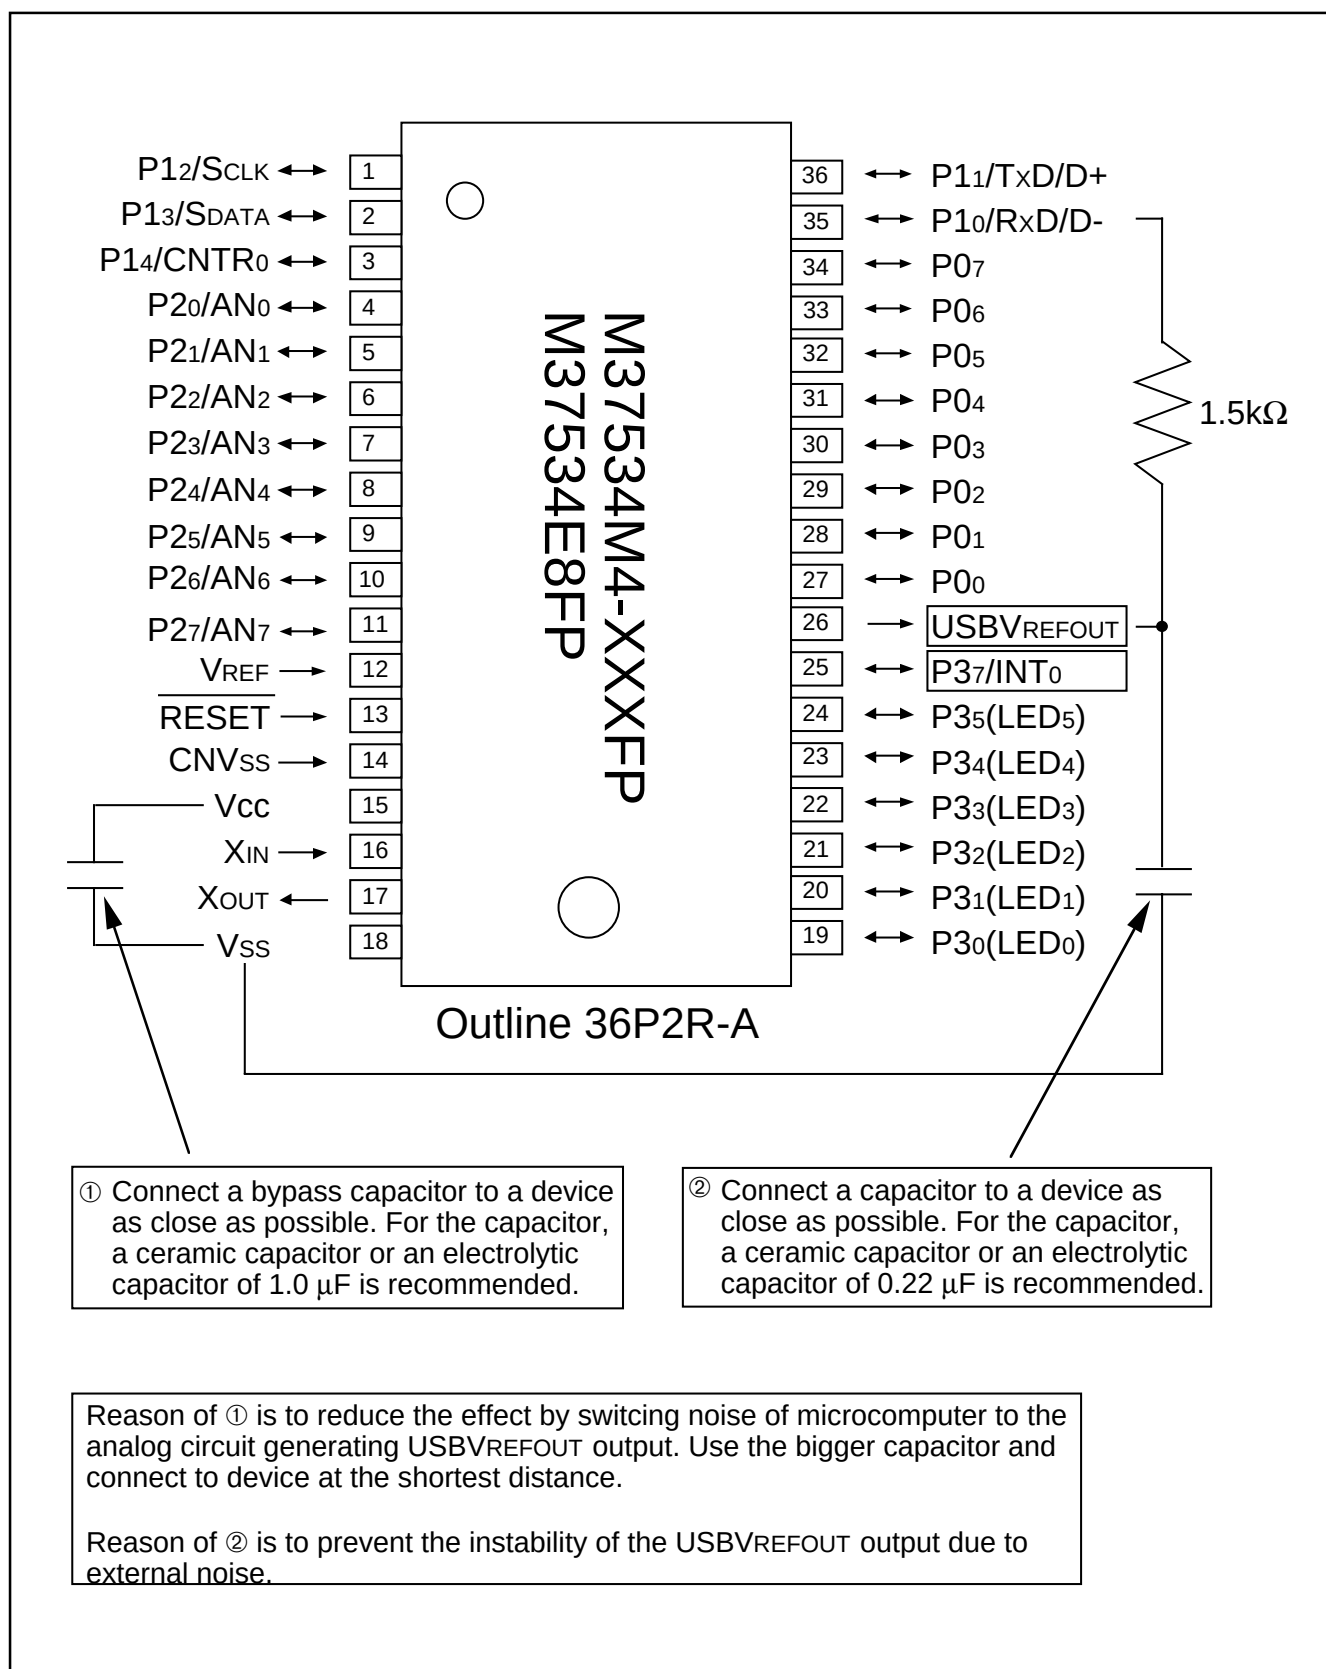

Fig. 51 Handling of VCC, USBVREFOUT pins of M37534M4-XXXXFP, M37534E8FP
| 1.1      | <p>Page 2: package type revised; 32P6B-A → 32P6U-A</p> <p>Page 5: package type revised; 32P6B-A → 32P6U-A</p> <p>Page 8 package type revised; 32P6B-A → 32P6U-A</p> <p>Page 34: Description revised; <math>\overline{\text{RESET}}</math> "L" pulse width 2 <math>\mu\text{s}</math> → 15 <math>\mu\text{s}</math></p> <p>Page 43: Table 11 revised; Absolute accuracy (excluding quantization error) → Linearity error</p> <p>Page 44: Table 12 revised; <math>\text{tw}(\overline{\text{RESET}})</math>: 2 → 15</p> <p>Page 48: Fig. 51 Description ①, ② revised</p> <p>Page 49: Fig. 52 Description ①, ② and package type revised; 32P6B-A → 32P6U-A</p> <p>Page 50: Fig. 53 Description ①, ② revised</p> <p>Page 51: Package outline revised; 32P6B-A → 32P6U-A</p>                                                                                                                                                                                                                                                                                                                                                                                                                    | 000614    |